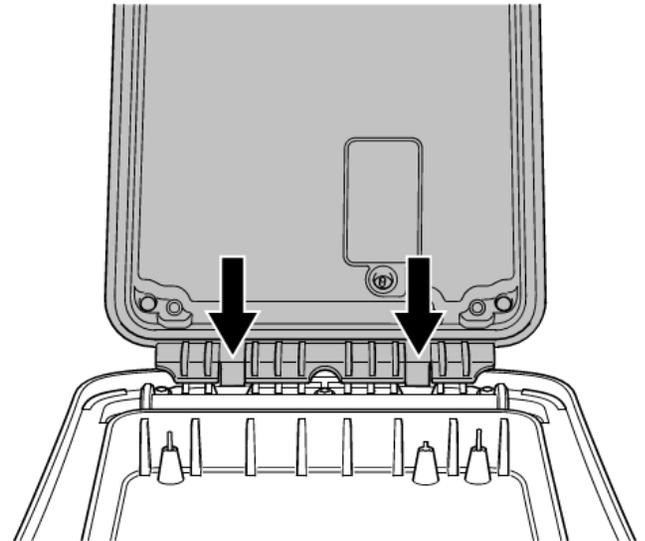

Figure 4.11: Line up the battery pack and press into position
- 4 Line up the battery pack clips with the corresponding recesses on the transmitter body and press into place (Refer to Figure 4.11).